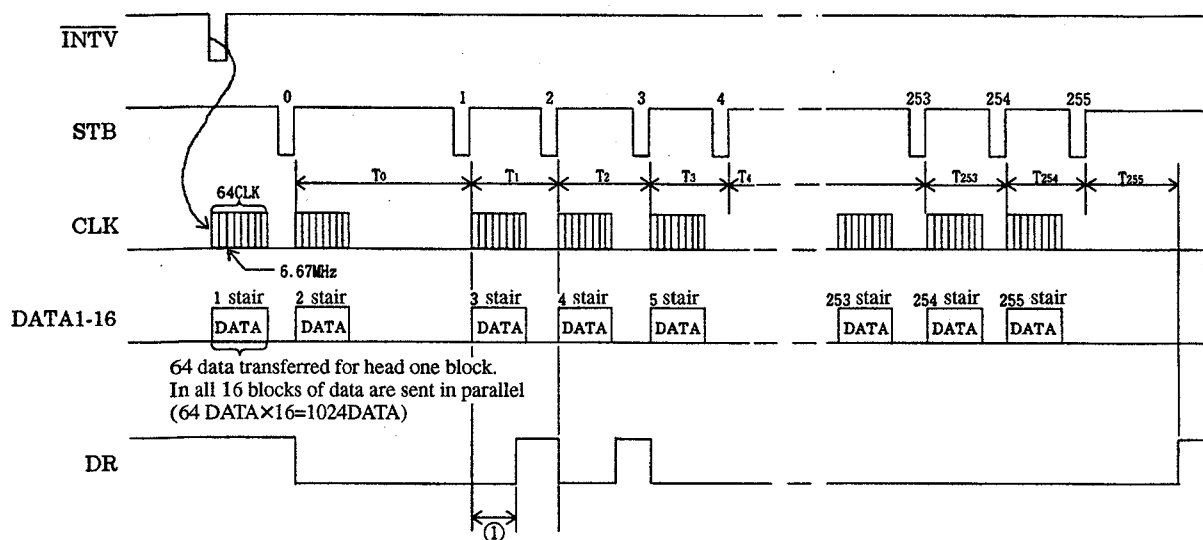

Fig. 4-9. Stair generation
- (1) The picture data is recorded one line by one line (every INT-V) in video memory IC302 and 303 or added SIMM at CN303. The data for one line is caught in internal line memory IC301 by controlling IC301.
- (2) The data caught in line memory is inputted to the stair generation circuit in IC301. The generation circuit converts the 8-bit data to stair data of 1 to 256 and outputs. In case 8-bit data is 128, 1 to 128 stairs of DATA 1 to 16 is outputted data "H" against the head. After 129 stair, it outputs the data "L". (Fig. 4-9.)
- (3) The data outputted to the head from the data generation circuit is synchronized with CLK and transferred to shift register section.
- (4) When the "1" STB pulse is inputted by IC301, the 1st data is transferred to the latch section and the 2nd stair data is inputted to the shift register section. At the same time, DR pulse goes "L" and the "H" data among the data input as the first stair data switches on the corresponding output stage transistors, heating up the corresponding resistors. The "L" data switches OFF the corresponding output stage transistors so those resistors do not heat up. This operation is carried out 256 times. If "H" data is sent the 1 through 256 times, the resistors generate heat the entire time and the printing is the blackest possible. If the data is only high until the 1 through 128 times, the printing is an intermediate stair. This is how intermediate stairs are generated by sending high data a certain number of times and generating heat in the resistors that many times.
- (5) Thus, by controlling the time until the next data is transferred to the latch, the darkness of intermediate stairs can be achieved simply. In other words, intermediate stair darkness can be controlled by changing the STB intervals, T1, T2, T3, T4, T5, — T256. Specifically, IC301 matches the intervals T1 to T256 to the paper's gamma characteristic. This is called gamma characteristic control.
- (6) If the DR pulse is also controlled as described in 4-6-3, even fine stair can be expressed.